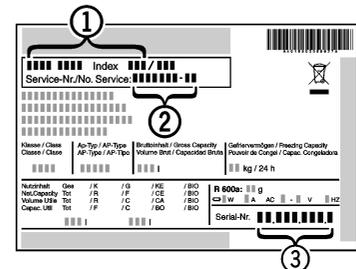

Fig. 6
- ▶ Read off the appliance name *Fig. 6 (1)*, service no. *Fig. 6 (2)* and serial no. *Fig. 6 (3)* from the model plate. The model plate can be found on the inside of the appliance on the left.
- ▶ Notify our customer service team and give them the error, the appliance name *Fig. 6 (1)*, service no. *Fig. 6 (2)* and serial no. *Fig. 6 (3)*